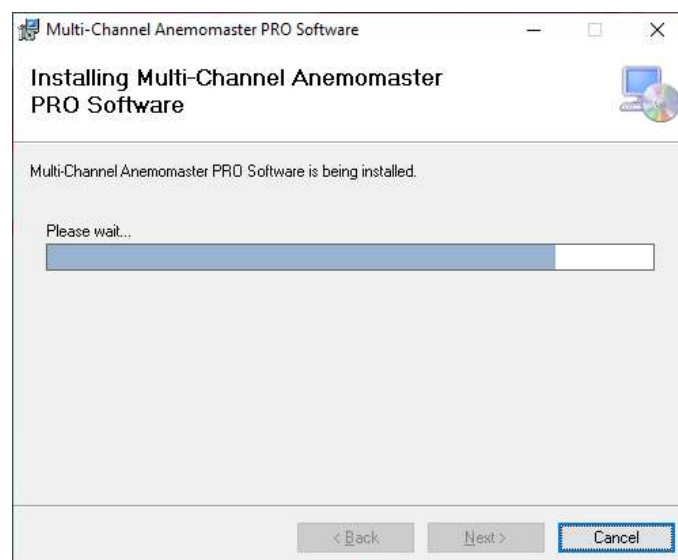

Figure 2-4 Installation Progress Bar Screen
4) Click the **Next** button to display Figure 2-4 below.